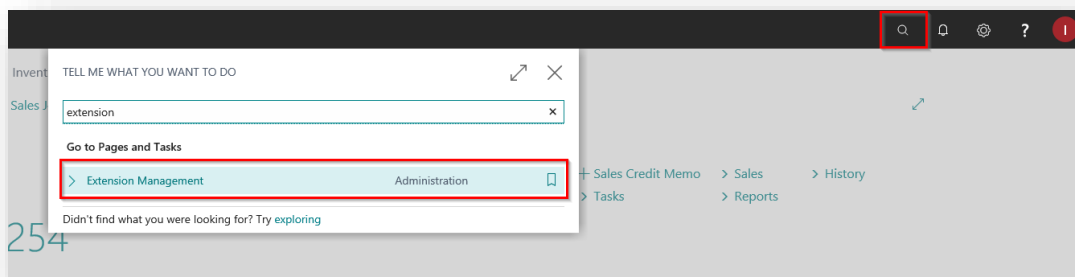

Figure 4-1
5. Open your Dynamics 365 Business Central Web Client and use the **Tell Me** to search for **Extension Management** (*Figure 4-1*).